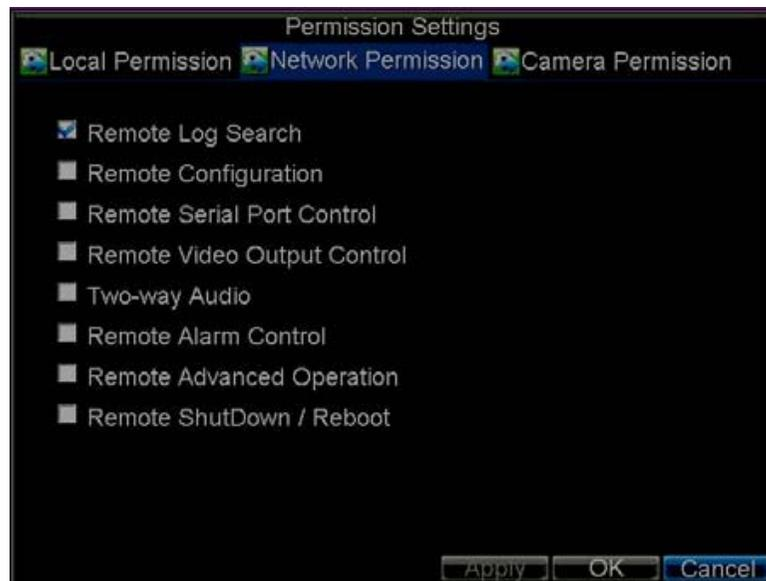

Figure 14.7. Network Permission Settings Menu
- 7) Click on **Network Permission** tab to configure network permission settings, as shown in Figure 14.7. The network settings include: